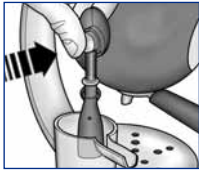

Fig. 8
- Place the empty water measure under the MAXI CAPPUCCINO device (3) and release all residual steam inside the boiler by holding down the steam dispenser button (4) (Fig. 8). With the button pushed, it is possible to bring the measure forward into its fixed position, allowing you to take your finger off the steam dispenser button and simply wait for the remaining residual steam to discharge.